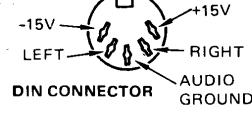

Figure 2. Basic Single-Amplifier System Using an Equalizer and Existing Speakers
(1) Adding Equalization. To improve the system even more, you could add an equalizer, such as an ORION 300 PRQ Pre Amp Equalizer, 600 EQM Equalizer, or 500 PMQ Parametric Equalizer (see page 6). The equalizer would be inserted in the system between the deck and the amplifier as shown in figure 2.